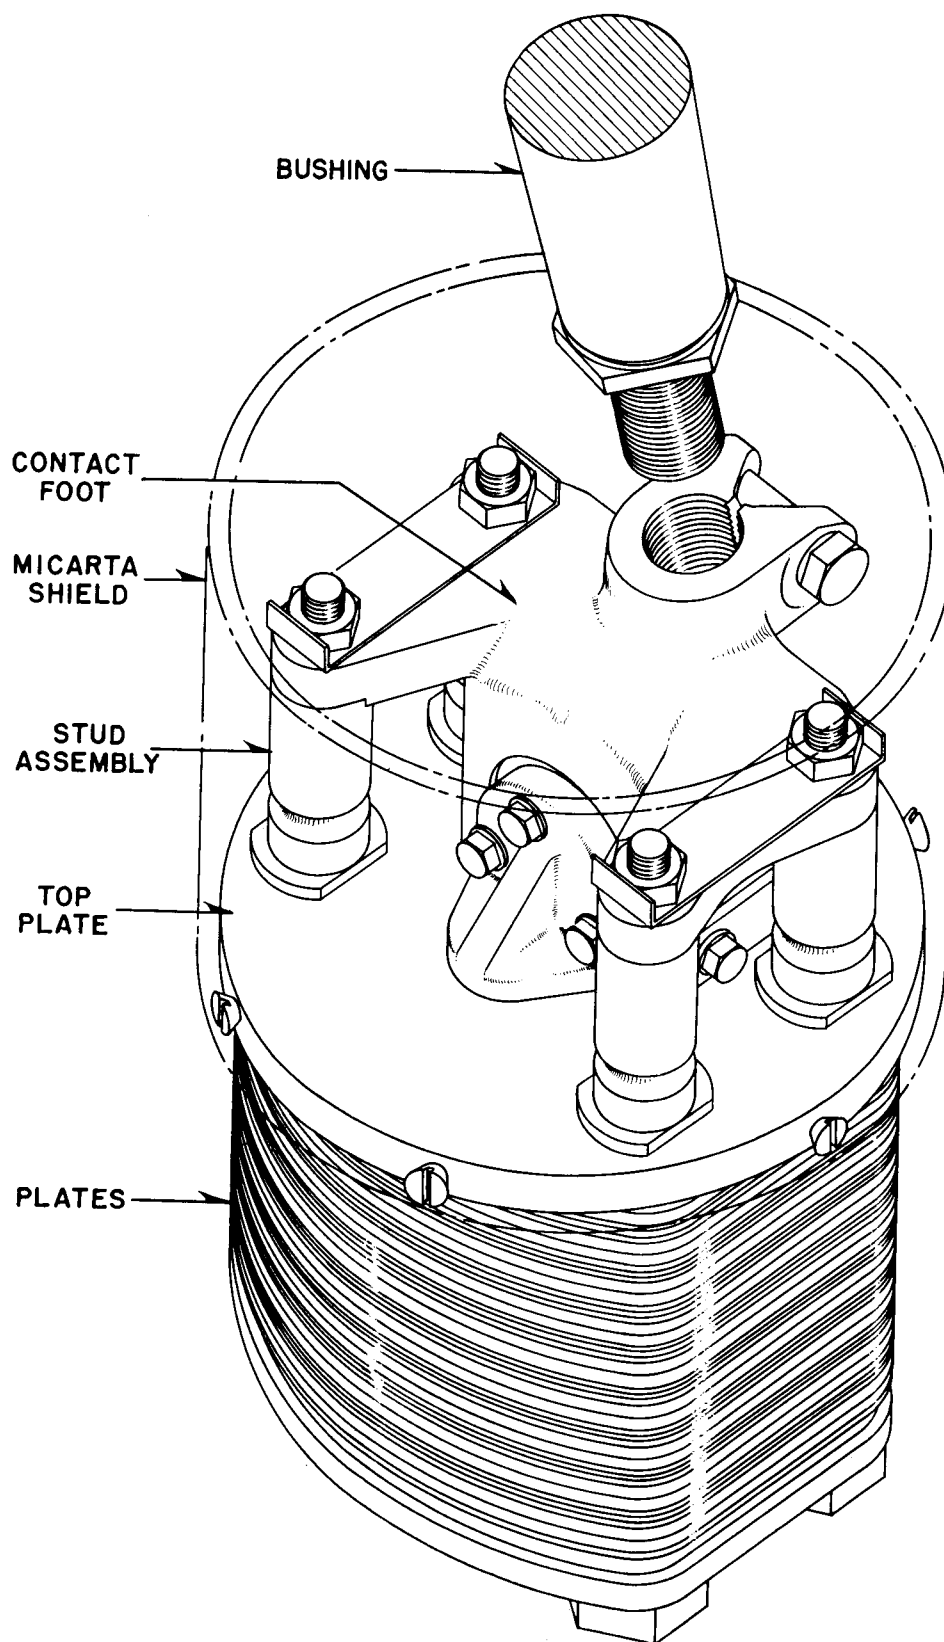

FIG. 9. Method of Disassembling the Stationary Contact Assembly
**Stationary Contacts.** The stationary contact assembly, including the "De-ion" Grid stack, is attached to the bottom of the condenser bushing in the steps shown in Fig. 9. In most cases, especially with the larger grids, this is best accomplished by removing the contact foot from the grid before attempting to screw it onto the bushing.
After all parts are in place, operate the breaker slowly by hand and adjust the various parts with respect to each other until proper contact, pressure or engagement is obtained. (See Figures 9 and 10.) Correct adjustment of the pole unit lever systems must be made so that the moving contacts and lift rods move freely in the slots of the "De-ion" Grids and the lift rods in the lift rod guides. After this is done, tighten all bushing flange bolts evenly and securely, tighten lock nut holding contact foot to bushing, replace insulating shield on stationary contact assembly and check all nuts and bolts on the stationary and moving contacts for tightness.